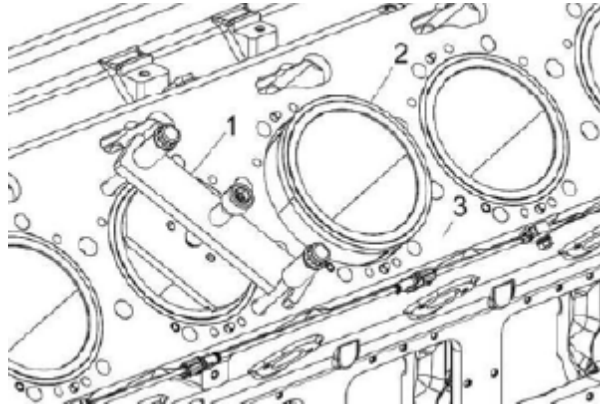

Figure 102
5. Install the cylinder liner installer (Figure 102, Item 1) on the engine block and nest the liner (Figure 102, Item 2) using the special tool.